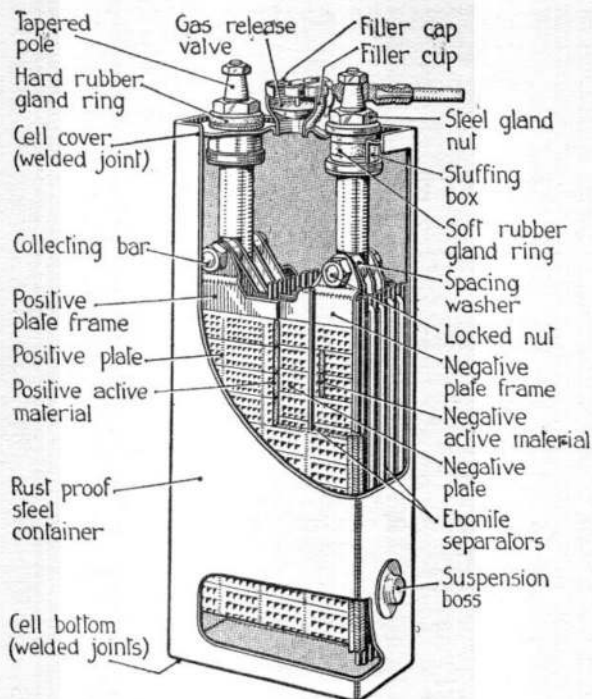
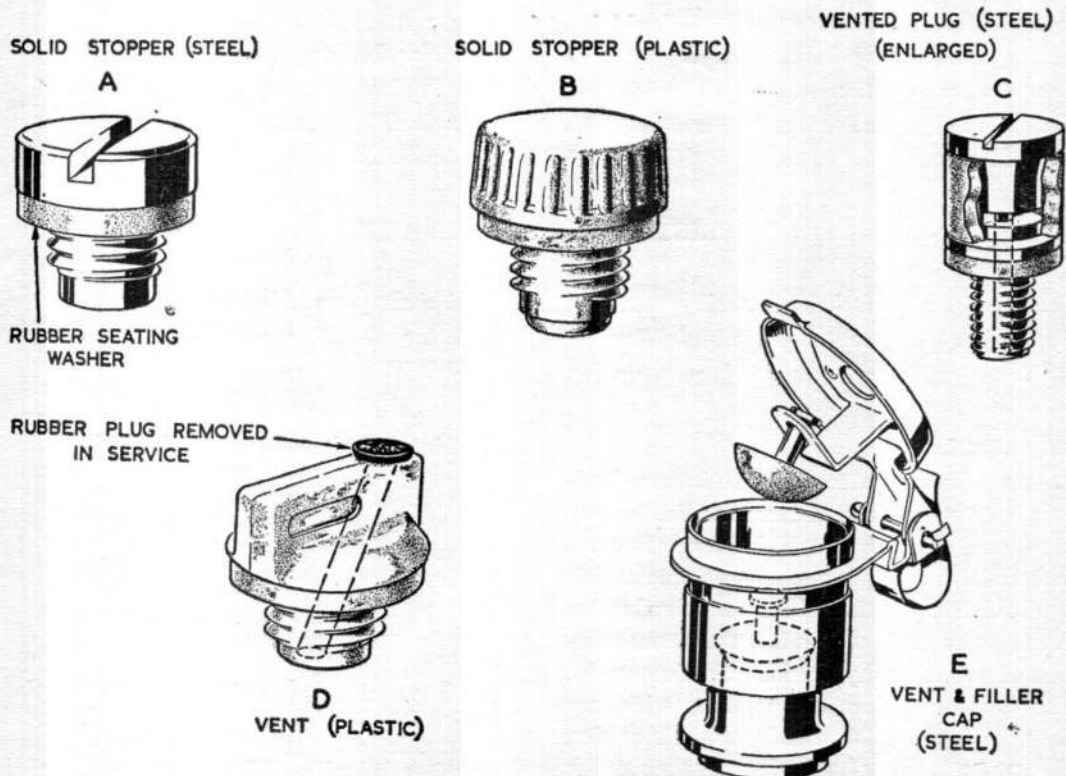

Fig. 1. Construction of typical alkaline cell
Fig. 2. Typical stoppers, vented plugs and filler caps
1. An alkaline battery differs from a lead-acid battery in that it uses an alkaline instead of an acid electrolyte and different electrode materials. The fundamental principle of this type of battery is the oxidation and reduction of metals or their oxides in an aqueous solution of potassium hydroxide (caustic potash). The electrolyte does not combine with, nor does it dissolve, the metals or their oxides. The construction of a typical alkaline cell is shown in fig. 1.
5. Batteries have the cells fitted with various types of stoppers or vented plugs, typical examples of which are illustrated in fig. 2. Solid stoppers may be either of steel (A) or plastic (B), with a rubber seating washer. For airborne use, a vented plug (C) may be used, with a rubber ring over the vent acting as a release device. Another type (D) has a vent which is sealed by a rubber plug when not in use. Certain M.T. batteries are provided with a vent and spring-loaded filler cap (E); this incorporates the type of gas relief valve shown in fig. 1, which allows the escape of gases given off during charging, but prevents entry of air which causes deterioration of the electrolyte.